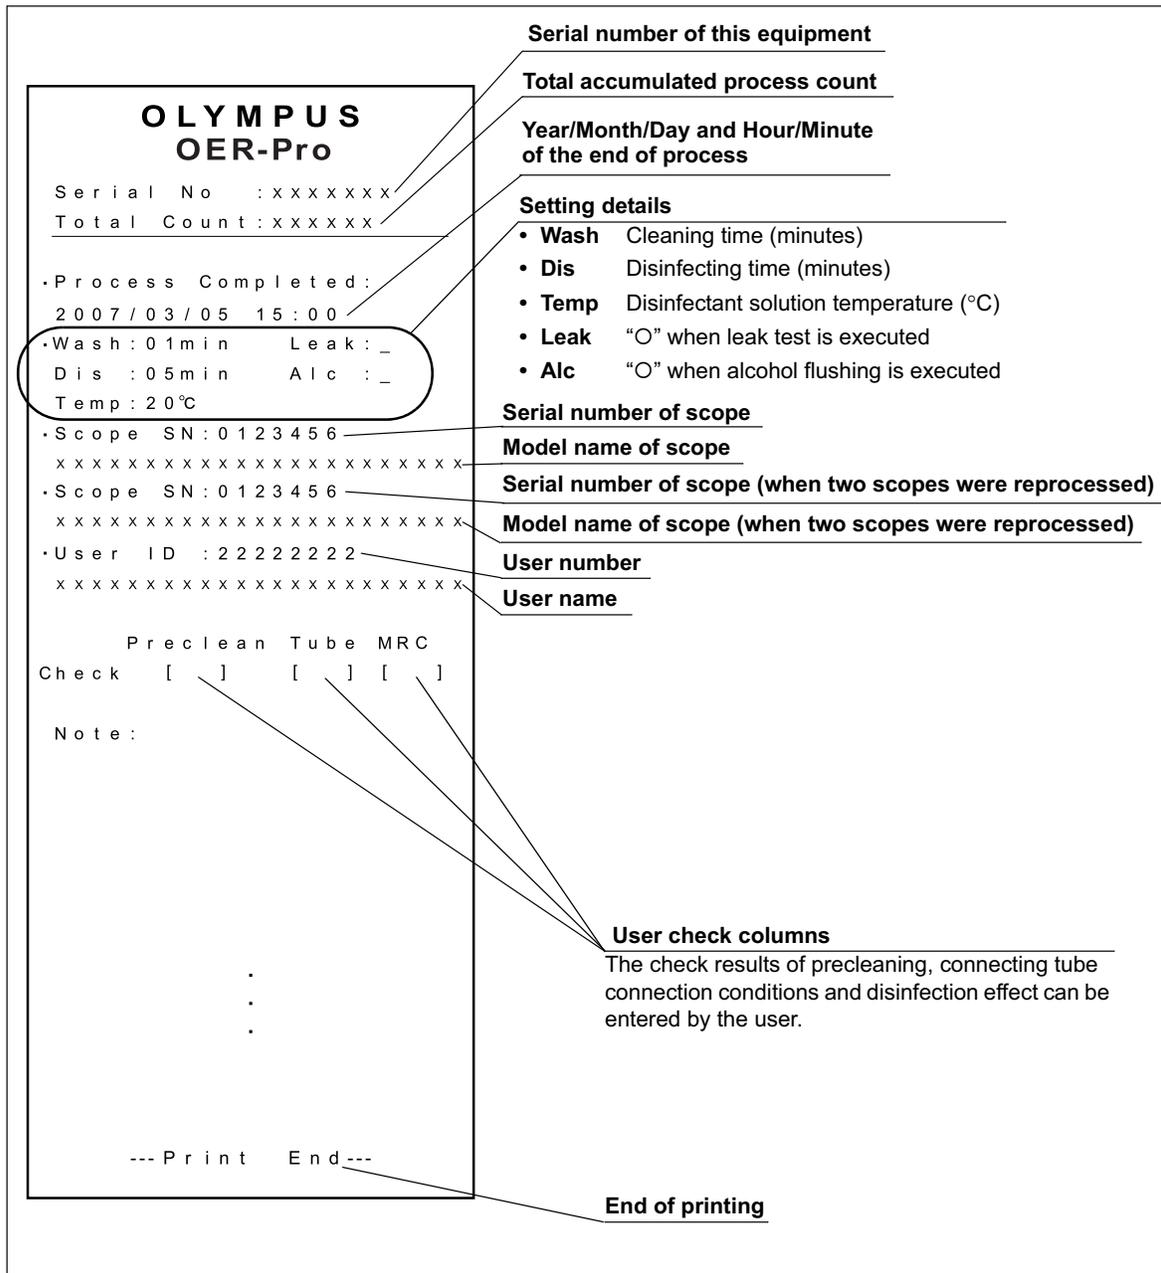

Figure 4.46
- For the printed information (see Figure 4.46).